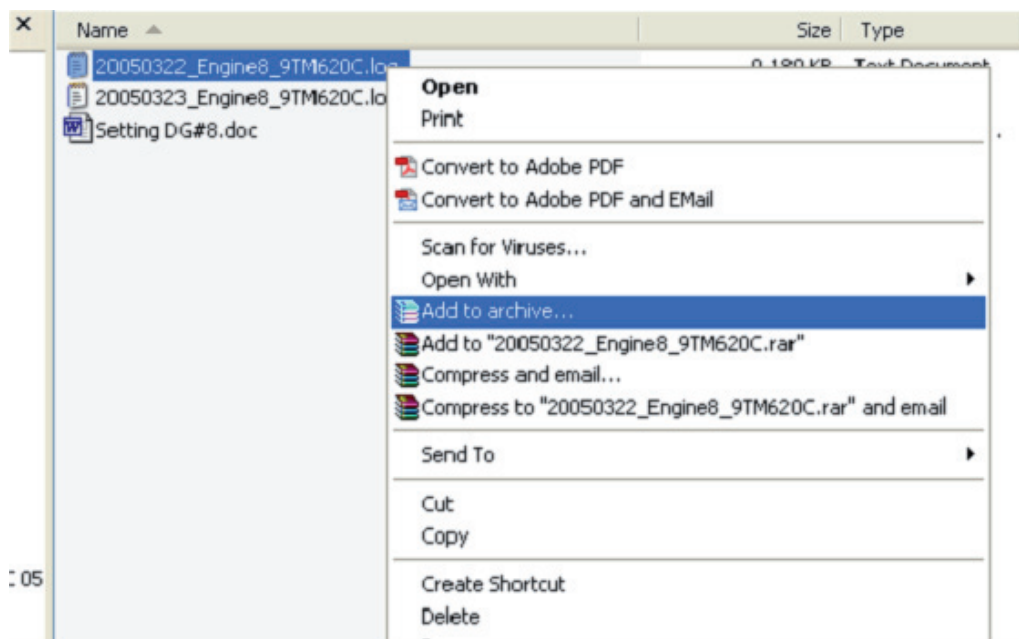

Fig 3.6.
- 1) Click on the desired data file which is to be compressed with the right button of the mouse. A menu should pop up (refer to Fig 3.6.).